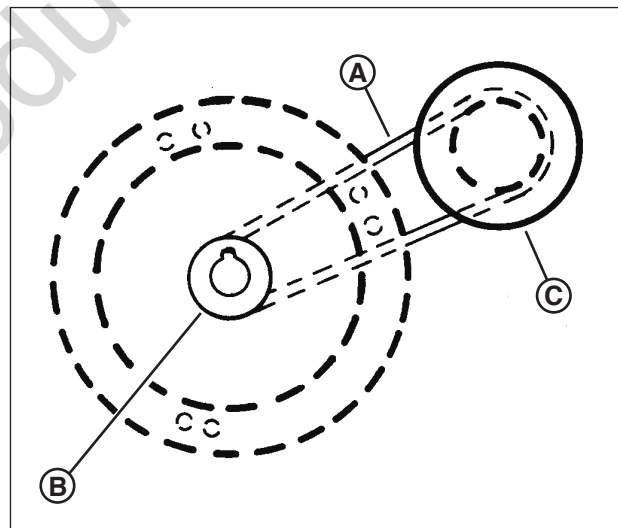

Figure 32: Engine drive belt routing
On self-propelled mowers, the engine belt (**A**, **Figure 32**) transmits power from the engine pulley (**B**) to the drive disc (**C**). The drive disc powers the poly-v belt, which engages the transmission that powers the rear wheels. Should these belts become worn, they could cause slippage, which would impair mower performance. The condition of the engine belt and poly-v belt should be checked after every 25 hours of mower operation.
2. Note the belt routing (**Figure 32**). There is no idler pulley on these models to disconnect.